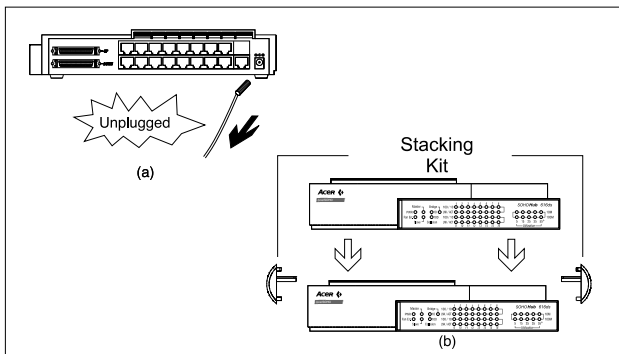

Figure 2-7 Unplug the power, and stack two hubs together
2.2.2 If you are installing more than one hub, please turn off the power of all hubs first. Then you can get another hub and place it above the previous one on the working surface, as shown in Figure 2-7. Finally, put the stacking kit in the middle of two sides and click into the stacking hole in the plastic housing. Check if all hubs are tightly fastened by the stacking kits and proceed to next step.